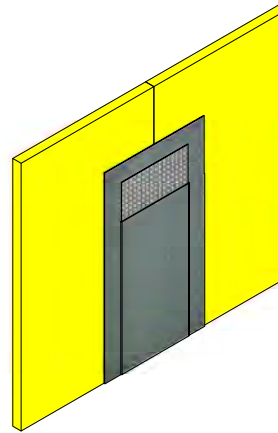

Figure 3
3. Apply additional ACROSTOP-R onto the SHEATHING FABRIC to embed. (See Figure 3)